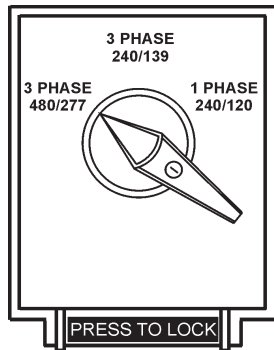

**Figure 24. Voltage Selector Switch
1. Place the voltage selector switch in the 3Ø 480/277 position as shown in Figure 24.